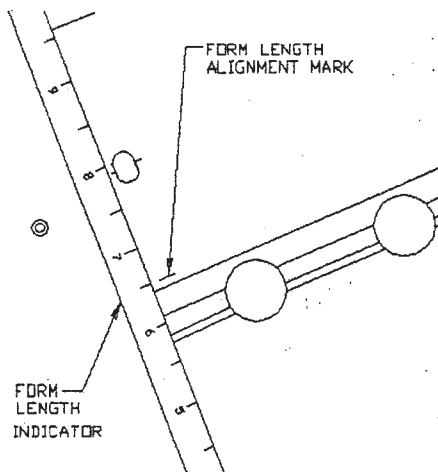

FIG 8
3. Set the machine for the length of the form by pulling Carriage Adjustment Knob outward- and rotate it so that the Alignment Mark on the Feed Roller Cover aligns with the corresponding form length of the Form Setting Indicator. Push the knob back in. (Fig. 8)